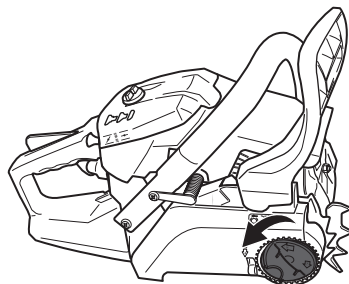

Fig. 2
- > Loosen the cover (8) by turning the locking wheel (6) anticlockwise (Fig. 2) and remove it.